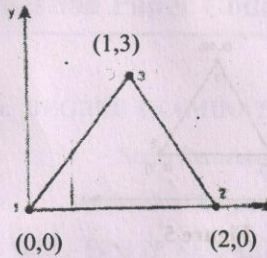

Figure 3
13. (a) Calculate the element stiffness matrix and the temperature force vector for the plane stress element shown in fig. 3. The element experiences a $20\text{ }^{\circ}\text{C}$ increase in temperature. Assume coefficient of thermal expansion is $6 \times 10^{-6}\text{ }^{\circ}\text{C}^{-1}$. Take $E = 2 \times 10^5\text{ N/mm}^2$, $\nu = 0.25$, $t = 5\text{ mm}$. (16)